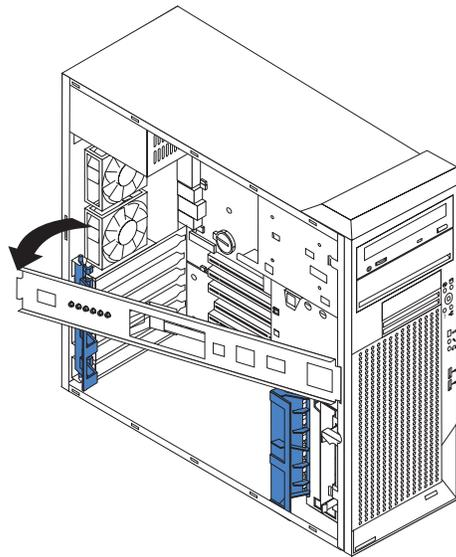

Figure 12. Support bracket
3. Pull out on the rear end of the support bracket approximately 150 mm (6 in.) (see Figure 12).